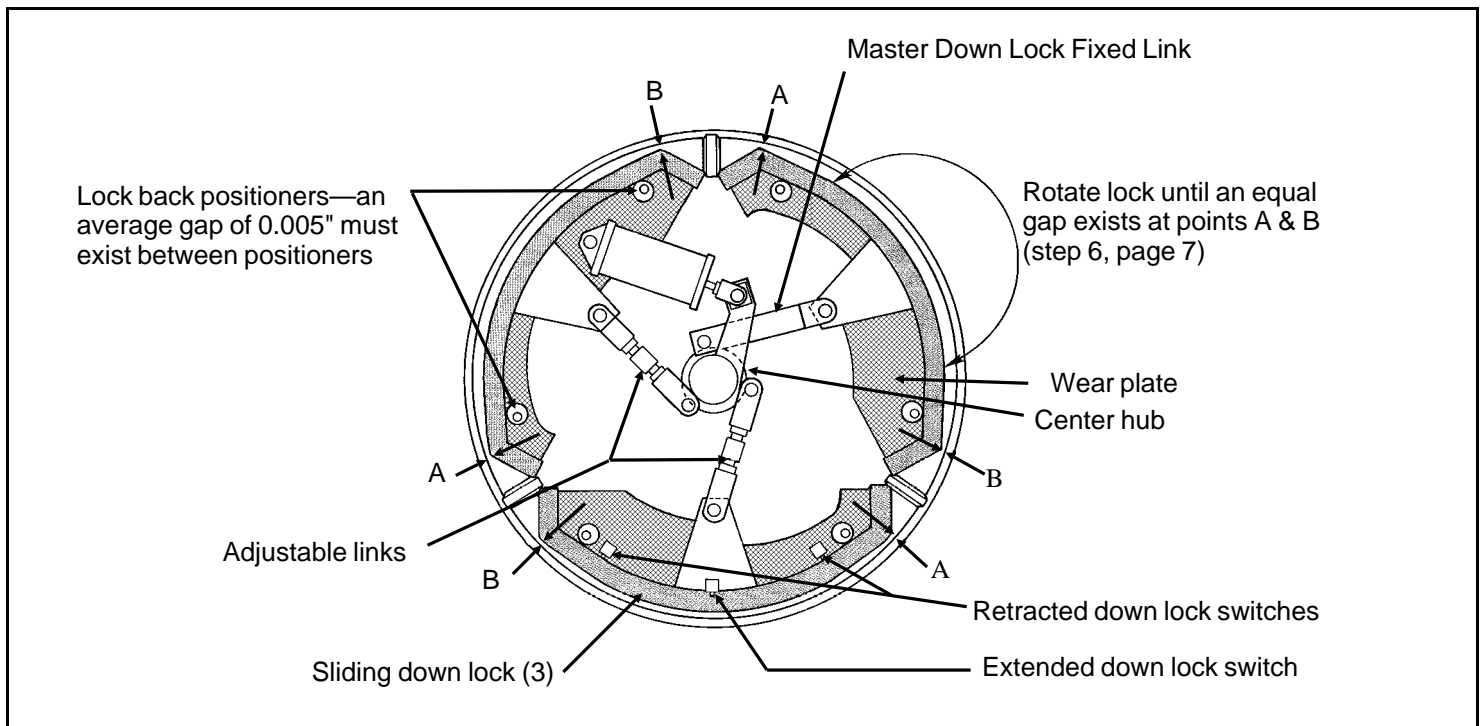

FIGURE 3 (MSSM0901AE)
3. For each down lock, an average clearance of 0.005" (0.13mm) must exist between the two lock back positioners (FIGURE 3) and the down lock. For example, if one lock back positioner has a 0.007" clearance and the other positioner for that lock has a 0.003" clearance, the average clearance will be 0.005".
4. A minimum clearance of 1/4" must exist between each retracted down lock and the lock ring (points A and B in FIGURE 3).
As shown in FIGURE 3, the master down lock link is non-adjustable. If the sliding down lock attached to this link does not have the clearances as specified above, it must be adjusted first. This down lock can only be adjusted by rotating the clevis on the down lock air cylinder. **Any adjustment made to the sliding down lock attached to the master down lock link will affect the adjustment of all three down locks.** If the sliding down lock attached to the fixed link is adjusted, the other two down locks must be adjusted; see "Adjusting the Fixed Link Down Lock" in this section. If the gap of the down lock with the fixed link is within specification, the two locks with adjustable links can be independently adjusted; see "Adjusting the Two Adjustable Link Down Locks" in this section.
3. Loosen all adjustable link shaft lock nuts. Remove the two adjustable link clevises from the center hub (FIGURE 3). Note location of any clevis bolt shims.